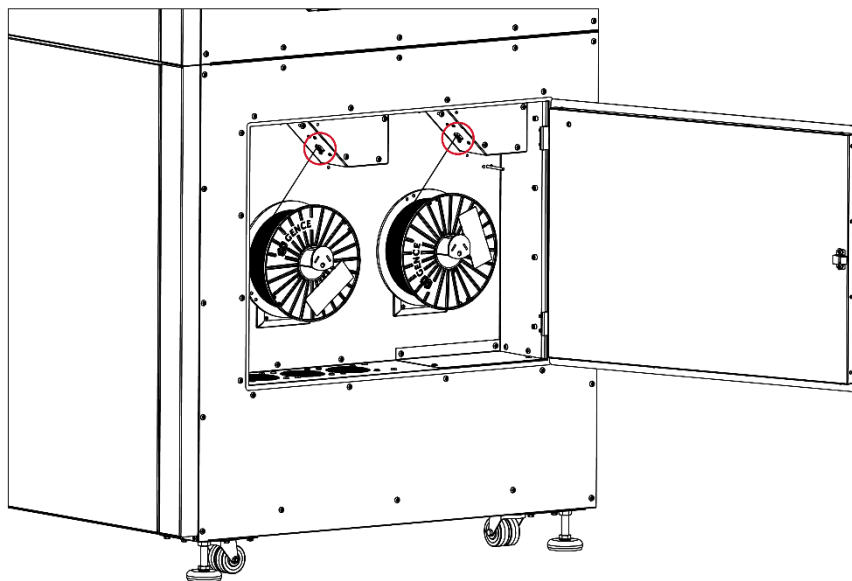

Fig. 66 Location of the entry holes to the filament feeding module
5. Load material to the appropriate material bay in the material chamber. Trim the filament end at an angle of 45° and straighten it. Insert and gently push the filament end into the input hole of the filament feed mechanism (Fig. 66).